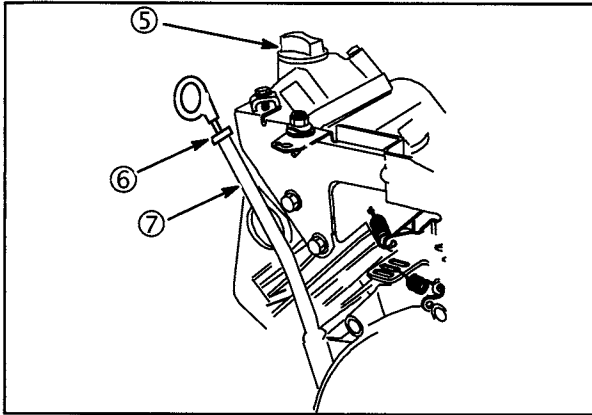

**Fig. 17**
The oil fill tube (3) and the dipstick (1) are equipped with O-rings (2) and/or a grommet (4) for proper sealing, **Fig. 17**.